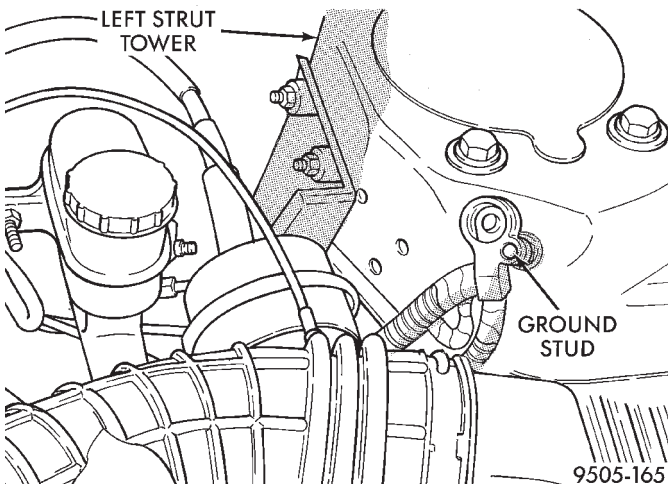

Fig. 66 Correctly Isolated Remote Ground Cable
(2) Correctly isolate remote ground cable when servicing vehicle by installing the ground cable insulator on the strut tower ground stud as shown (Fig. 66). **This will prevent accidental grounding of the remote ground cable.**